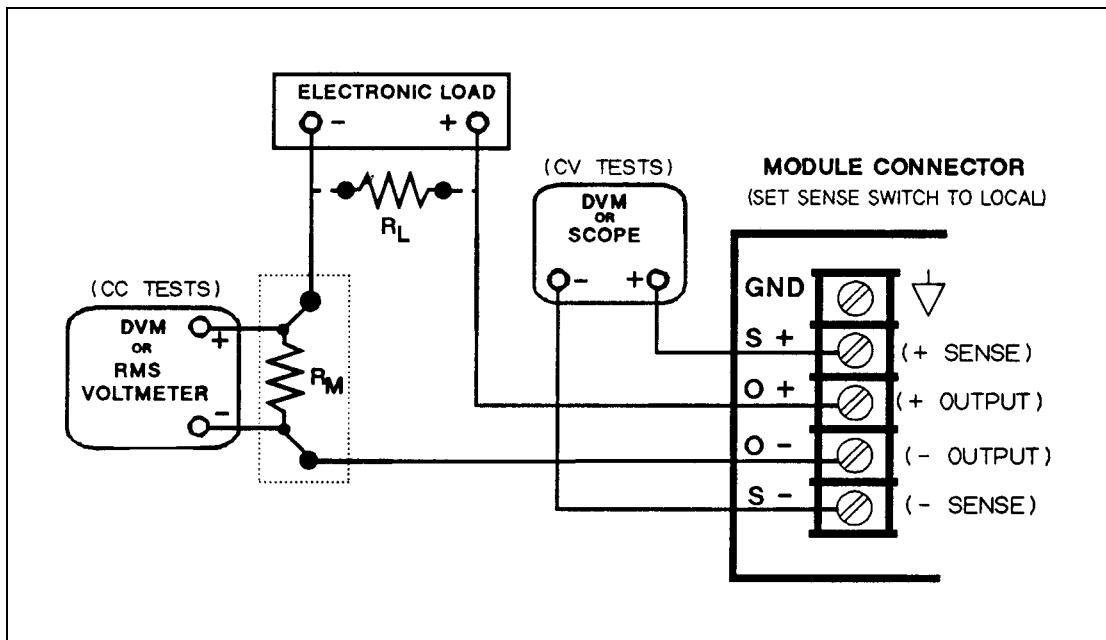

Figure 2-1. Performance Test Setup
To eliminate output current measurement error caused by voltage drops in the leads and connections, connect the current monitoring resistor between the output and the load as a four-terminal device (see  $R_M$  in Figure 2-1). Connect the current monitoring leads inside the load lead connections directly at the monitoring points on the resistor element.
1. Turn off the power module and connect a digital voltmeter between the + S and - S terminals (see Figure 2-1).
1. Turn off the module and connect the output as shown in Figure 2-1 with the DVM connected between the + S and - S terminals.
6. The difference between the DVM readings in steps (4) and (5) is the load effect voltage and should not exceed the value listed in the Performance Test Record Tables under CV LOAD EFFECT, for the model being tested.
2. Connect the output as shown in Figure 2-1 with the DVM connected between the + S and - S terminals. Set the transformer to nominal line voltage (either 115Vac or 230Vac).
9. The difference between the DVM readings in steps (6) and (8) is the source effect voltage and should not exceed the value listed in the Performance Test Record Tables under **CV SOURCE EFFECT**, for the model being tested.
1. Turn off the module and connect the output as shown in Figure 2-1 to an oscilloscope (ac coupled) between the + and - terminals. Set the oscilloscope's bandwidth limit to 20MHz (30MHz on the Agilent 54504A) and use an RF tip on the oscilloscope probe.
1. Turn off the module and connect the output as shown in Figure 2-1 with the oscilloscope across the + S and -S terminals.
1. Turn off the module and connect the output to be tested as shown in Figure 2-1 with the voltmeter connected across the current monitoring resistor.